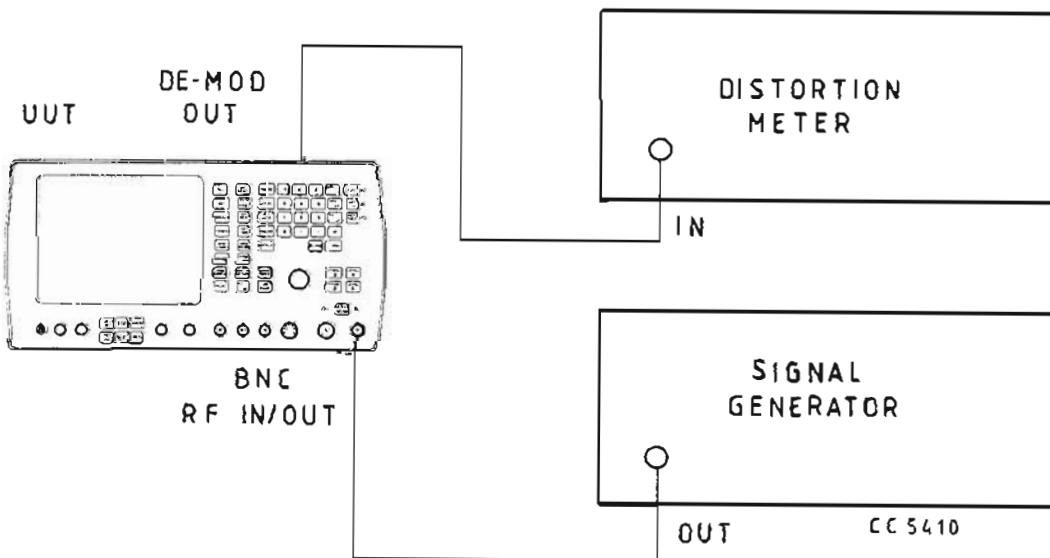

Fig. 3 Test equipment connections for modulation meter demodulation distortion performance checks
- (1) Connect the equipment as shown in Fig. 3.